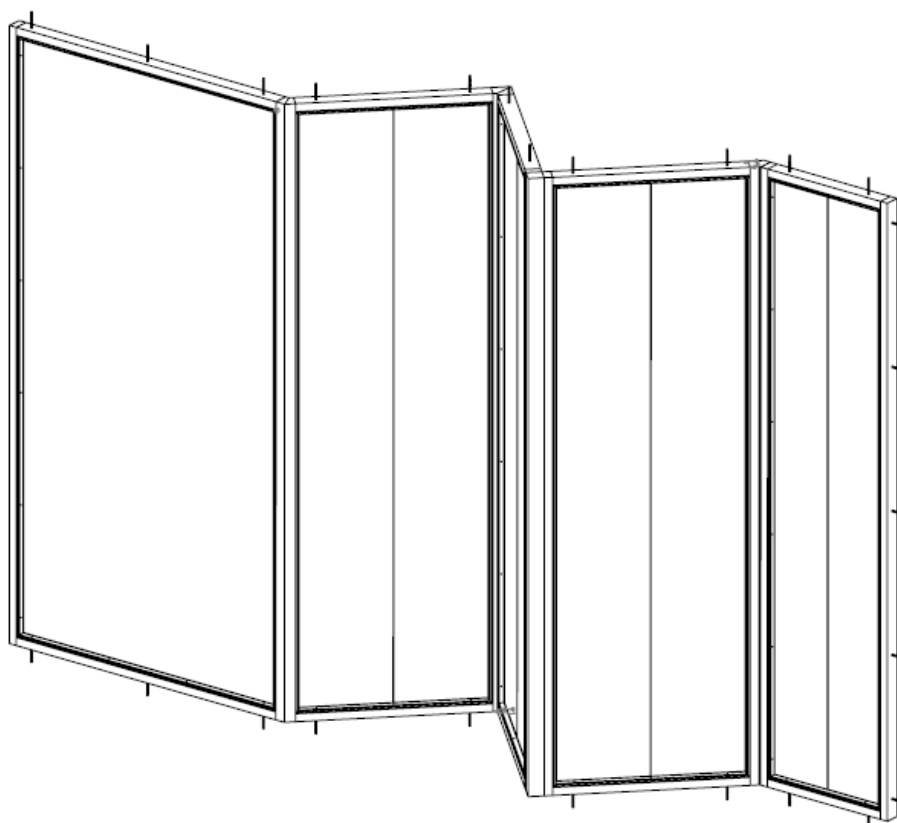

Figure 5: Butt-joint glazing with angles, designed with vertical mullions
- Butt-joint glazing with angles and vertical mullion (Figure 5)